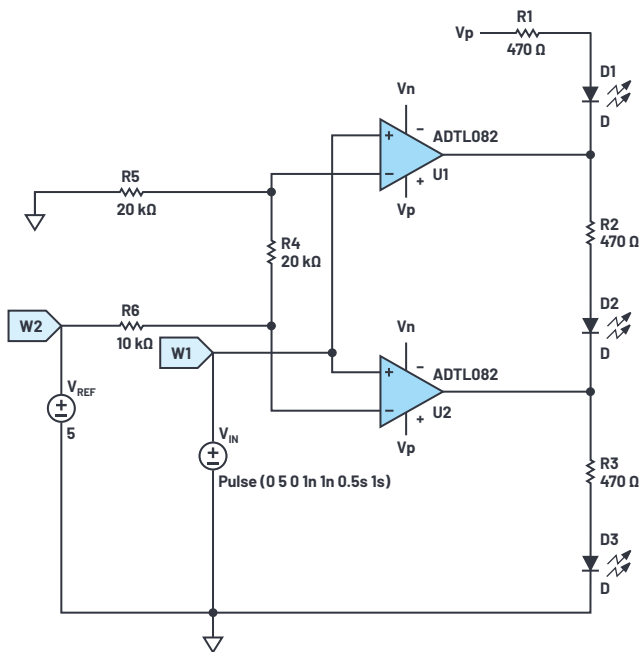

Figure 16. Voltage level indicator using LEDs.
You can also extend the above example to a circuit with multiple voltage levels as the circuit presented in Figure 16.
- ▶ Compute the threshold voltages according to the circuit in Figure 16. Determine which LED will be on for each input voltage range.